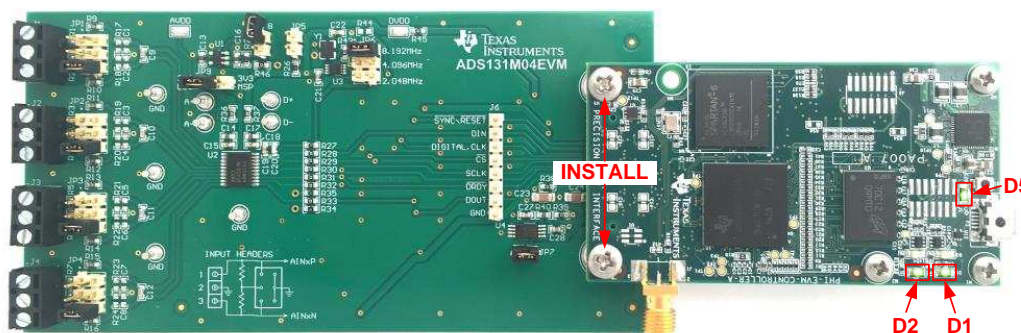

Figure 10. ADS131M04EVM Hardware Setup and LED Indicators
1. Connect the ADS131M04EVM to the PHI. Install the two screws as indicated in Figure 10.
- LEDs D1 and D2 on the PHI start blinking to indicate that the PHI is booted up and communicating with the PC; Figure 10 shows the resulting LED indicators